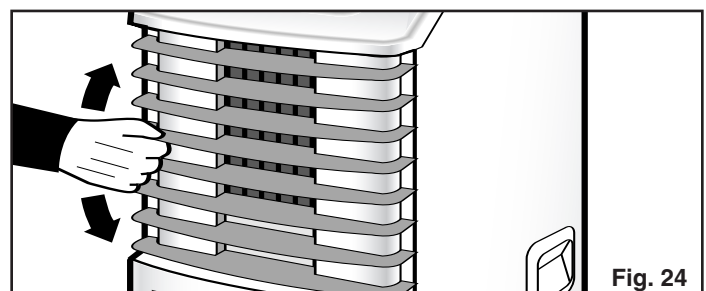

Fig. 24
- 5) To adjust “air flow” direction, (up / down only) adjust any one of the **Horizontal Louver Blades (excluding the top or bottom louver)** and the remaining louvers will automatically adjust to the same position. *Fig. 24*.